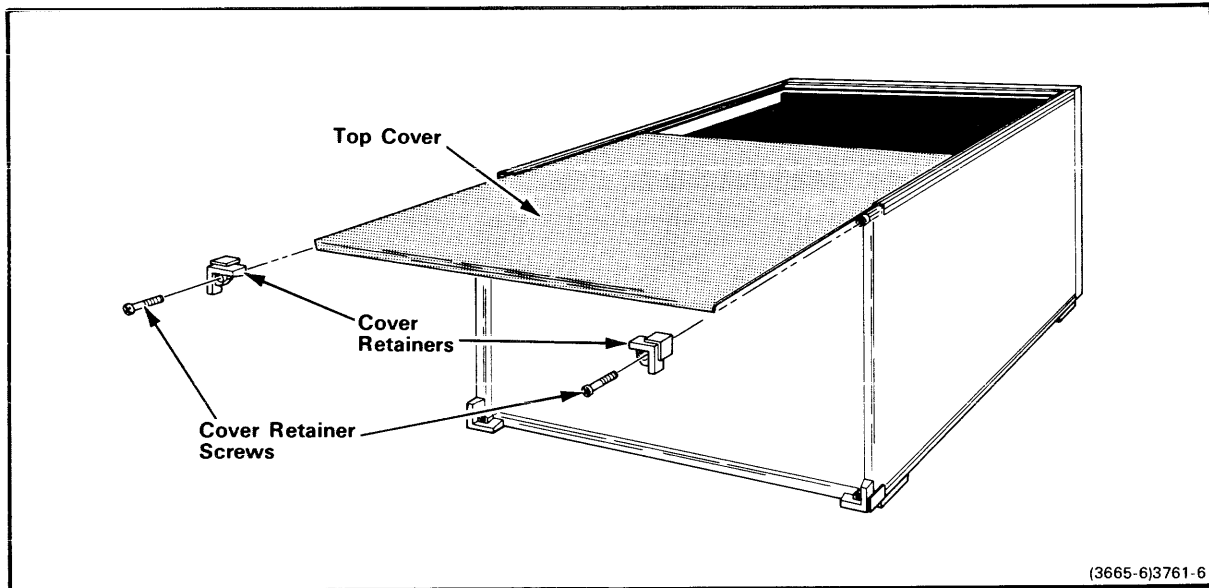

Fig. 3-1. Removing/installing the mainframe top cover.
1. Remove the cover retainers at the upper corners on the rear of the mainframe. See Fig. 3-1.
1. Refer back to Fig. 3-1. Slide the top cover back into the guide tracks at the top of the mainframe. Be certain that the cover is properly seated in the slot at the front of the mainframe.